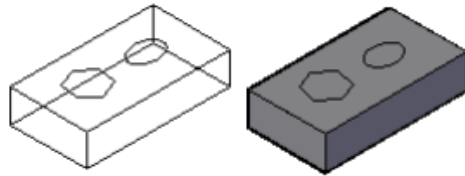

Figure 2
*Create the solid box, and draw an ellipse and a polygon (with the approximate sizes) as shown in Figure 2.*